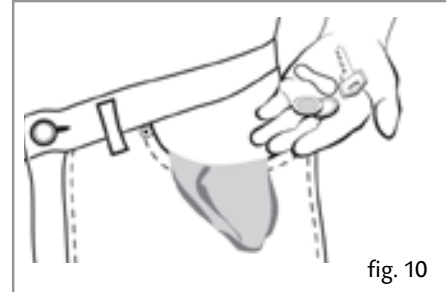

fig. 10
- Before placing the clothes in the drum, make sure all the pockets are empty (Figure 10). Any small objects may block the drain pump.